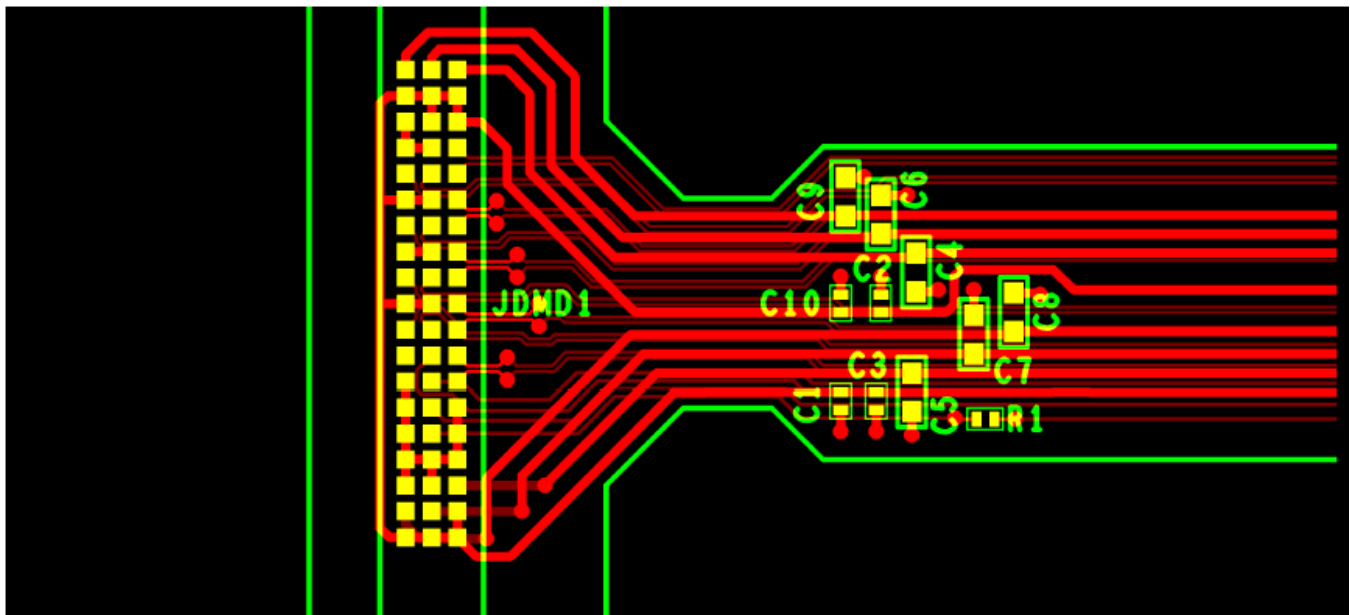

图 9. Power Supply Connections
- Minimize vias, layer changes, and turns for the HS bus signals. See 图 9.
- Minimum of two 100-nF decoupling capacitor close to VBIAS. Capacitor C6 and C7 in 图 9.
- Minimum of two 100-nF decoupling capacitor close to VRST. Capacitor C9 and C8 in 图 9.
- Minimum of two 220-nF decoupling capacitor close to VOFS. Capacitor C5 and C4 in 图 9.
- Minimum of four 100-nF decoupling capacitor close to Vcci and Vcc. Capacitor C1, C2, C3, and C10 in 图 9.